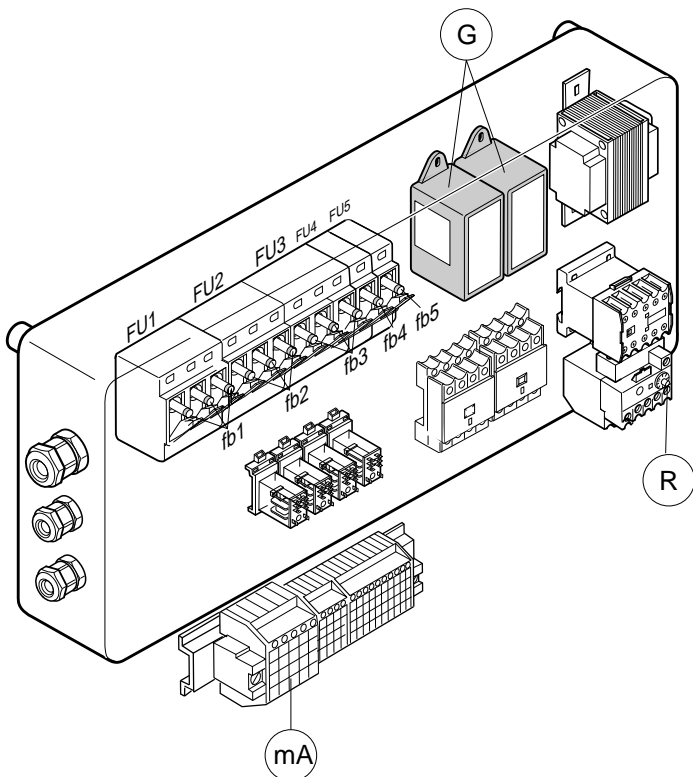

Fig. 4
- Connect the cable to the terminal "mA" (fig. 4) and fasten it with the cable clip.
Otherwise change two supply phases on the terminal "mA" (fig.4).